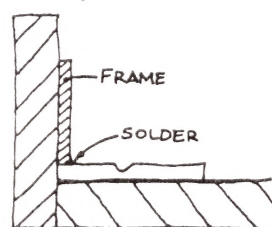

FIG. 11
Step 17 - solder one frame vertically to the edge of the paxolin strip. A wooden jig helps to keep the frame vertical. See Figure 11.